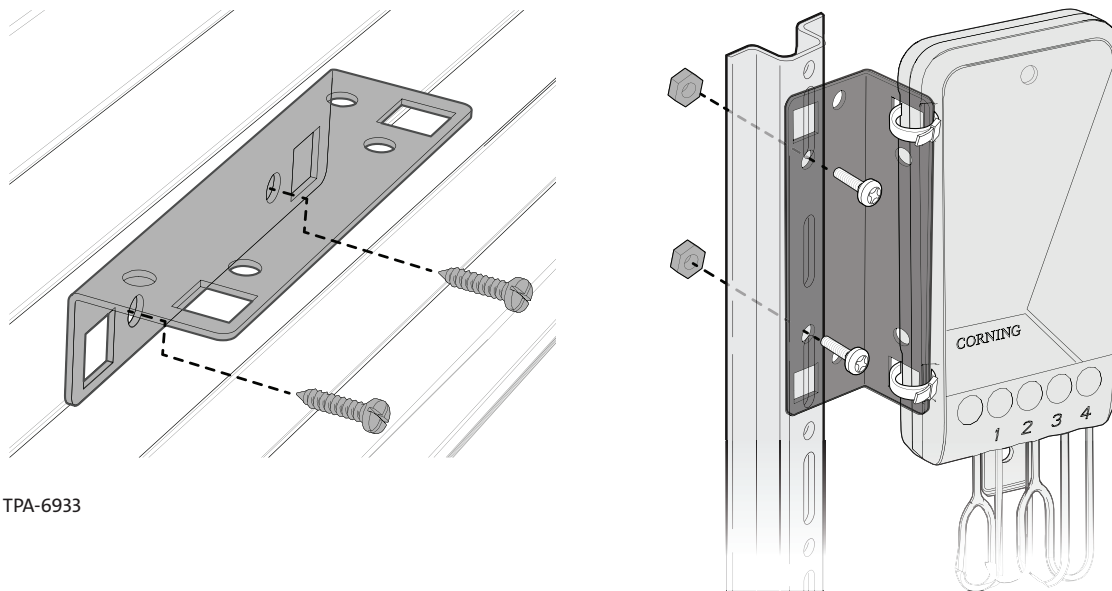

Figure 16
Step 1: Secure the bracket to the wall/pedestal using cable straps or 1/4-in (6mm) screws/bolts (Figure 16).